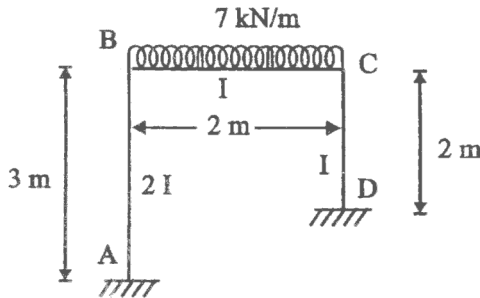

Fig. 1
- (b) Analyse the frame shown below fig. 1 by Moment Distribution method. Draw the B. M. diagram and sketch the deflected shape of the frame. 15